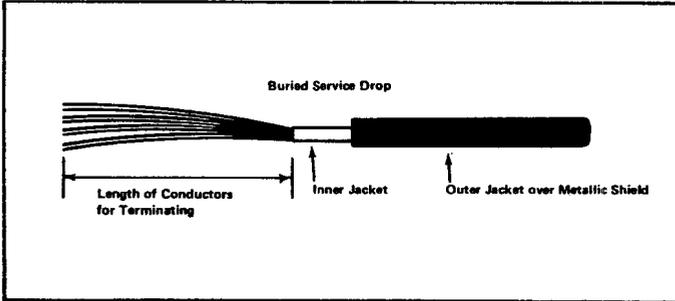

FIGURE 22.
6.04 Remove all but approximately 3/8 inch of the inner jacket by cutting around with a knife; then pull off the jacket. See Figure 22.